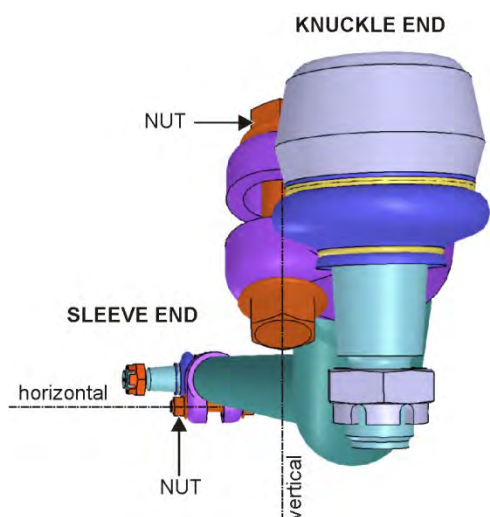

FIGURE 10: NOTE THE HORIZONTAL ORIENTATION OF THE CLAMP BOLT AT THE SLEEVE END AND ON WHICH SIDE THE NUT MUST BE POSITIONED
12. Adjust sleeve to the values of FIGURE 10.